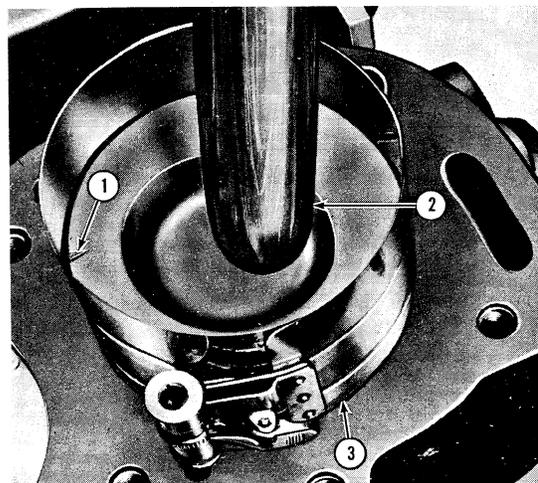

Figure 50
15. **PISTON AND CONNECTING ROD ASSEMBLY:** Turn the crankshaft to position the No. 1 crankpin at the bottom of the stroke. Oil the piston and rings, cylinder bore and bearing liner and install the assembly with a ring compressor, Figure 50. Ensure that the notch on top of the piston is towards the front of the engine.